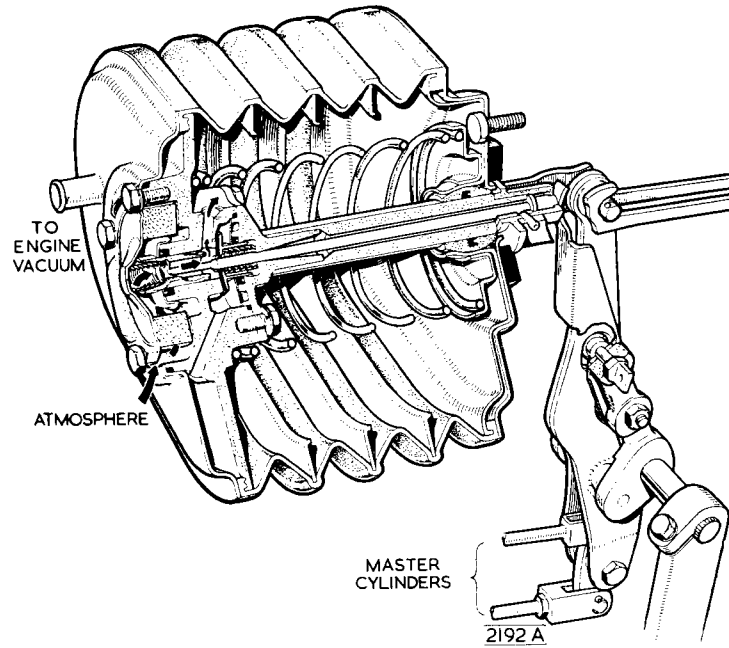

Fig. 25. Servo operation—"Brakes Off" position
- Releasing the brake.** When the brakes are released, the operating lever moves the valve operating rod and thus the air valve against the action of the air valve spring. This opens the air valve and closes the vacuum valve, air again enters the bellows causing them to expand. At any point during the release the driver may hold the brakes and the unit will immediately become poised. On complete release the servo regains the position shown in Fig. 25.